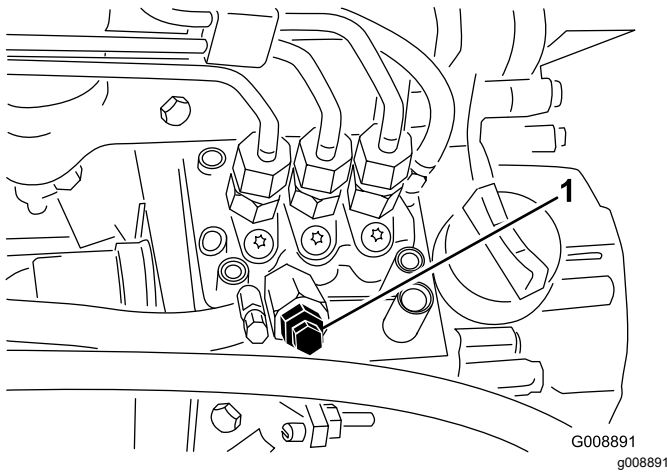

Figure 39
3. Open the air-bleed screw on the fuel-injection pump (Figure 39).